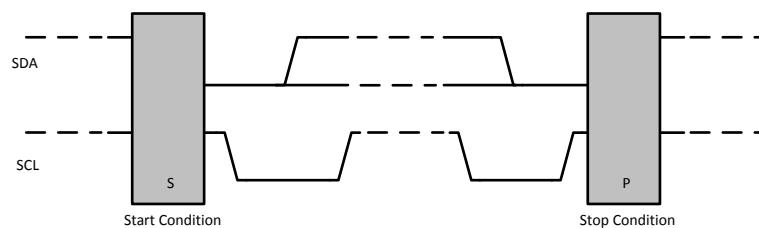

图 31. I²C Start and Stop Conditions
The LM36923 is configured via an I²C interface. START (S) and STOP (P) conditions classify the beginning and the end of the I²C session 图 31. A START condition is defined as SDA transitioning from HIGH to LOW while SCL is HIGH. A STOP condition is defined as SDA transitioning from LOW to HIGH while SCL is HIGH. The I²C master always generates the START and STOP conditions. The I²C bus is considered busy after a START condition and free after a STOP condition. During the data transmission the I²C master can generate repeated START conditions. A START and a repeated START conditions are equivalent function-wise. The data on SDA must be stable during the HIGH period of the clock signal (SCL). In other words, the state of SDA can only be changed when SCL is LOW.